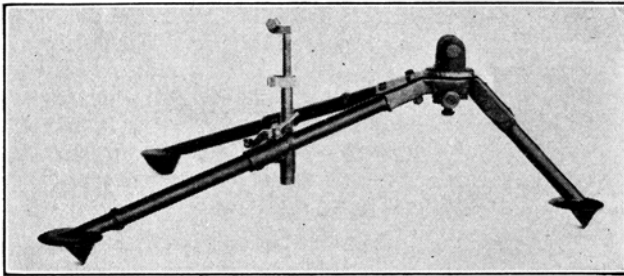

Fig. 15.—Machine gun tripod M2.
a. This tripod (fig. 15) is a simple mount for the light machine gun and is designed to furnish the gun with a stable mount embodying the maximum strength and rigidity consistent with desired light weight. It is portable, easily packed, and may be used for the delivery of accurate fire on ground targets.